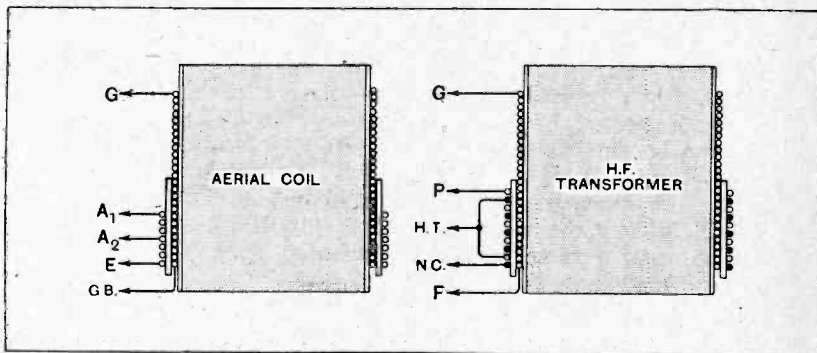

Fig. 3.—Sectional diagram showing the correct connections of the H.F. transformers; the neutralising winding is indicated by black dots.
Fig. 3.—Calculated input curves for various types of output; (1) unsmoothed output; (2) smoothed output; (3) unsmoothed output with a phase difference; (4) falling output.
being no input if the applied voltage is less than the condenser voltage. Although the valve current is proportional to the $3/2$ power of the applied voltage, the approximate form of the input current may be found by plotting the difference between a sine curve and the output. In Fig. 3 this has been done for several types of output, two of which (3 and 2) correspond very nearly with two of the oscillograms (IV. and VII.).
The matter of connections to the H.F. transformers is of the utmost importance. Some failures to obtain a balance have been traced to the fact that primary and neutralising windings are wound over the high-potential end (that joined to detector grid) of the secondary, instead of over the low-potential end (joined to filament). Attention is drawn to Fig. 3, which shows the correct connections of both aerial-grid and H.F. transformers; the lettering corresponds to that in the "Everyman Four" booklet. It should be noted that the last turn of the neutralising section should be immediately over the last secondary turn, and that all windings should occupy a length closely approximating to that specified.